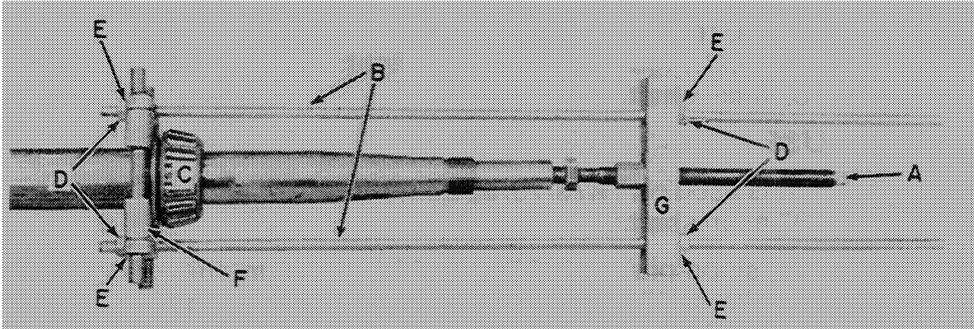

FIGURE 13
LEFT MAIN SHAFT BEARING REMOVAL TOOL (Figure 13)
Use this tool to remove the tapered roller bearing, C, Figure 13, from the left end of the main shaft.
Install as shown in Figure 13. Tightening screw, A, will pull off the bearing.
- 1 Suitable bearing separator, screw and cross arm puller (A, F, G, Figure 13)
- 2 All-thread rods - ½" x 24" (13 mm x 610 mm) UNC Gr. 5 (B, Figure 13)
- 4 Hex nuts - ½" (13 mm) (D, Figure 13)
- 4 Plain washers - ½" (13 mm) (E, Figure 13)